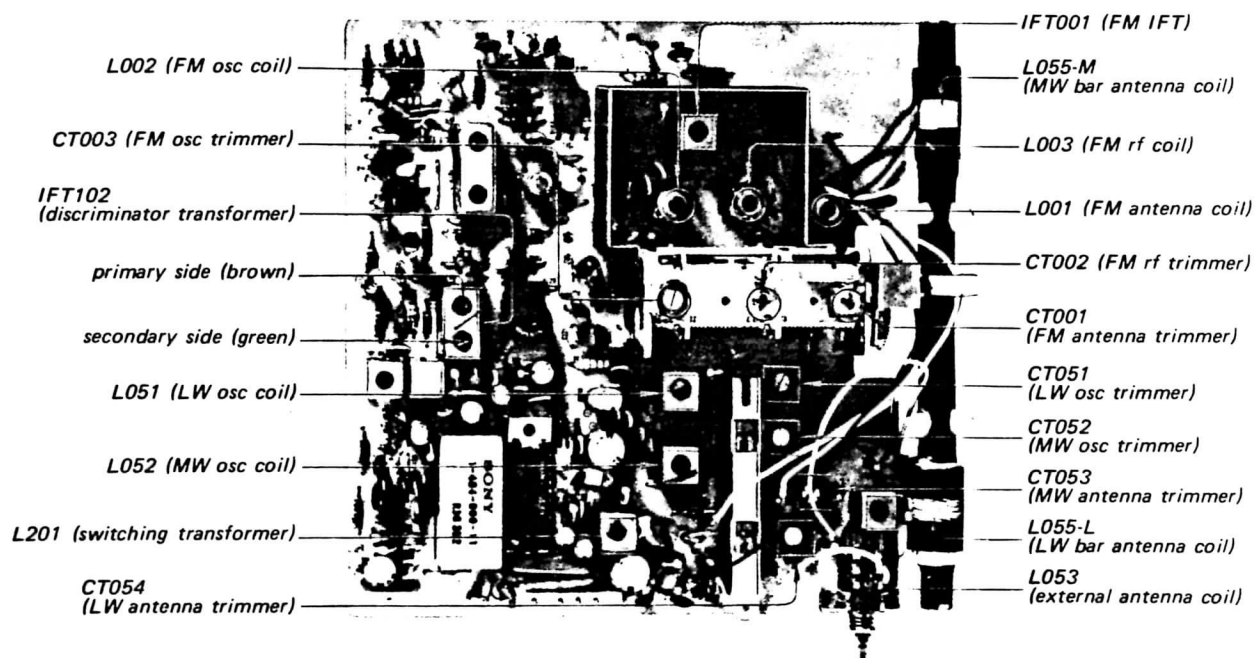

Fig. 3-13. Adjustment parts location
1. Precisely tune the set to the carrier frequency of stereo signal generator, then turn the top core of switching transformer L201 (See Fig. 3-13) to obtain maximum output at the left channel. Note that this adjustment has a close relationship with stereo distortion.
4. The output-level to residual-level ratio represents the separation. Turn the top core of switching transformer (L201) (See Fig. 3-13) for minimum residual level. Check the right channel for separation. Readjust switching transformer for minimum difference between left and right-channel separation.